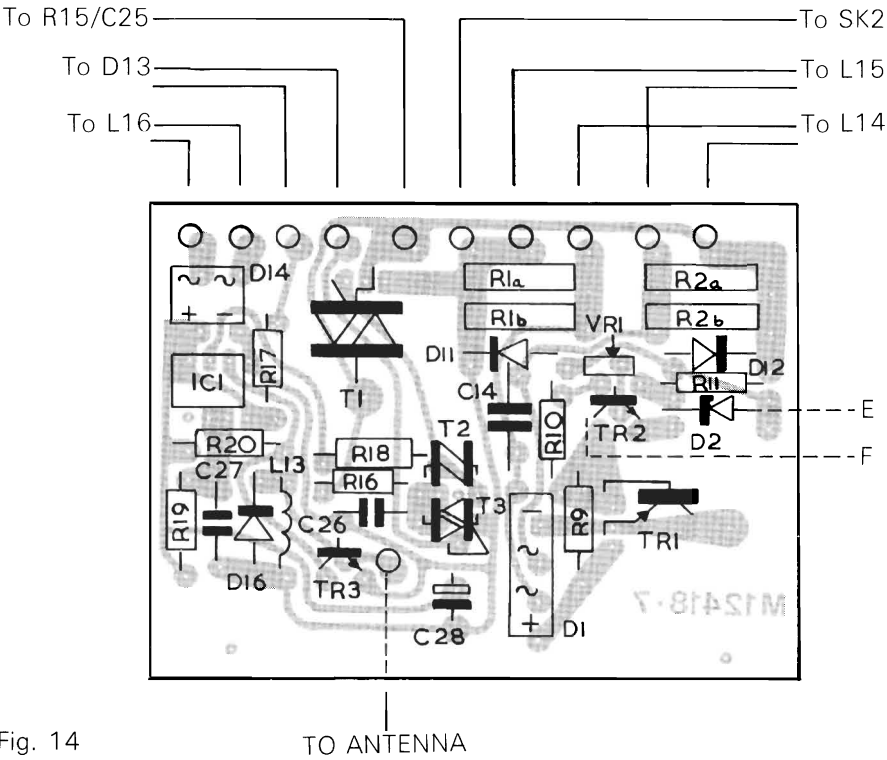

Fig. 14
- (a) R10, Tr2, Vr1, D2 and R11 removed from the clamp/detector board. D15, 24V Zener Stock No. D4824VA added. This fixes the clamping level. When carrying out this modification D15 should be connected as shown in the circuit diagram ISS 2 and may be accommodated using the vacated holes marked as E and F in Fig. 14. In some cases D15 is made up from 2 12V zeners and either a link or an ordinary diode.